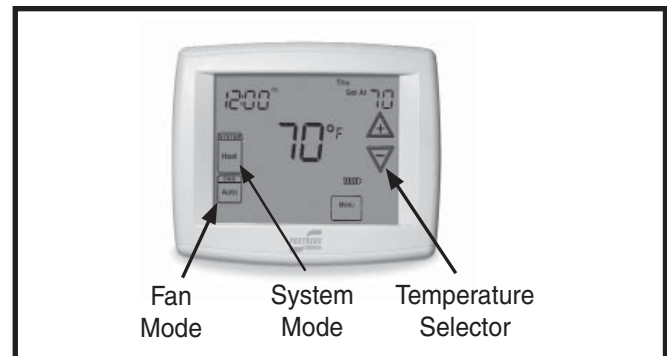

Figure 1. Digital Thermostat
1. Set the thermostat's system mode to COOL or AUTO and change the fan mode to AUTO. See Figure 1.
1. Set the thermostat's system mode to HEAT or AUTO and change the fan mode to AUTO. See Figure 1.
1. Set the thermostat system mode to AUTO and the thermostat fan mode to AUTO. See Figure 1.
The continuous indoor blower operation is typically used to circulate the indoor air to equalize a temperature unbalance due to a sun load, cooking, or fireplace operation. Set the thermostat fan mode to ON (Figure 1). The indoor blower starts immediately, and will run continually until the fan mode is reset to AUTO.
Change the thermostat's system mode to OFF and the fan mode to AUTO (See Figure 1). **NOTE:** The system will not operate, regardless of the temperature selector setting.